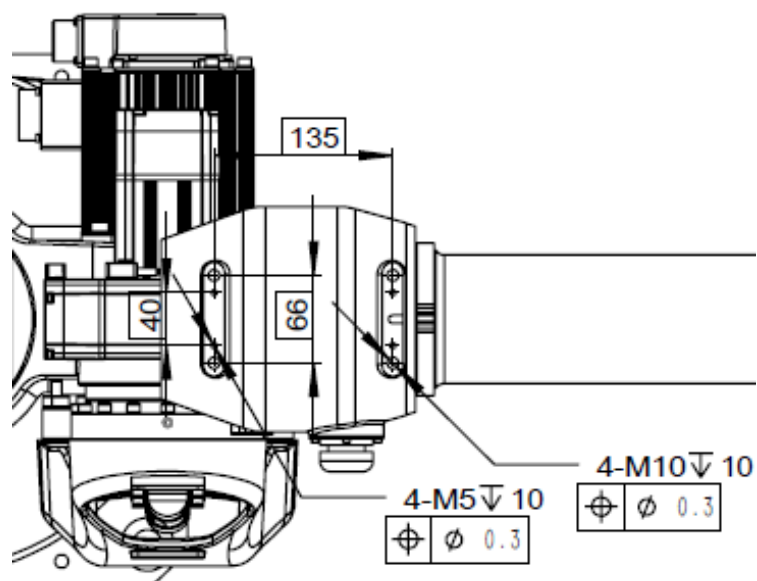

Figure 7-6 Diagram of the size of the elbow load interface of the manipulator
The device installation hole specifications and dimensions for manipulator J3 axis elbow are shown in Figure 7-6.
- The center of mass of the elbow load should be located inside the 135mmx66mm area of the installation screw as shown in Figure 7-6.